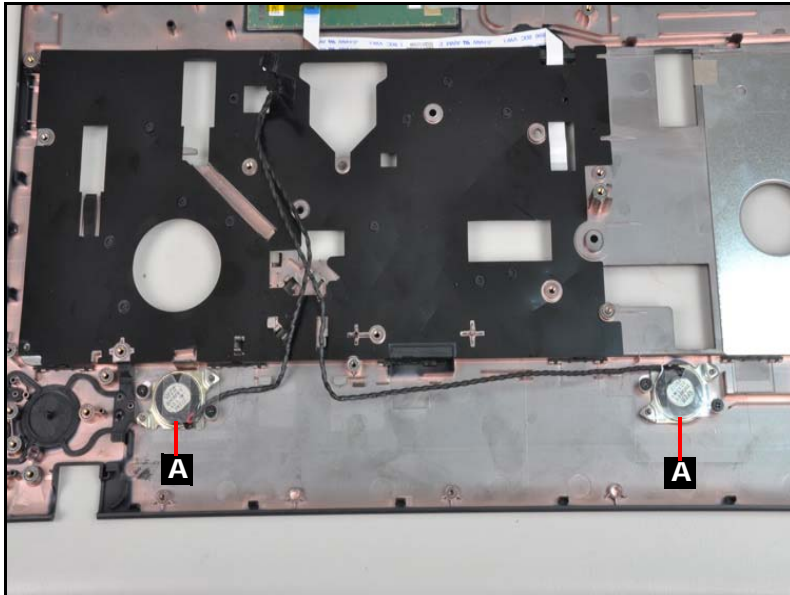

Figure 3-39. Speakers
1. Remove the speakers by lifting upwards from the lower case (Figure 3-39).
1. Place the speakers onto the lower case and press down to secure it. Refer to Figure 3-39.